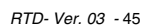

Fig. 5
- 2) The display shows the message "First transmitter" and then "hidden key", press the hidden key (P1 - Fig.5) of the first transmitter (lowest number) you wish to enter.